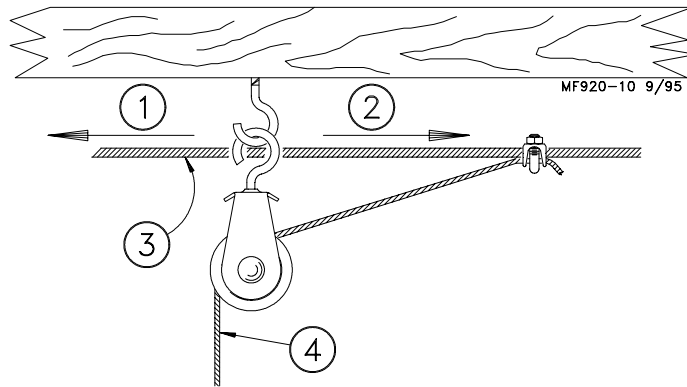

Figure 16. Screw Hook Installation (Side View)
Refer to Figures 16 or 17 through 20 for specific installation instructions for the screw hooks and ceiling hooks.
2. The openings of the screw hooks must be pointed away from the direction of travel when the Power Winch raises the feeder line. See Figure 16.
2. Thread the end of the 3/32" or 1/8" cable through the pulley toward the winch. Clamp this end to the 3/16" winch cable about 6" (150 mm) from the last pulley, using a 3/16" cable clamp. See applicable figure; Figure 16 or 21.